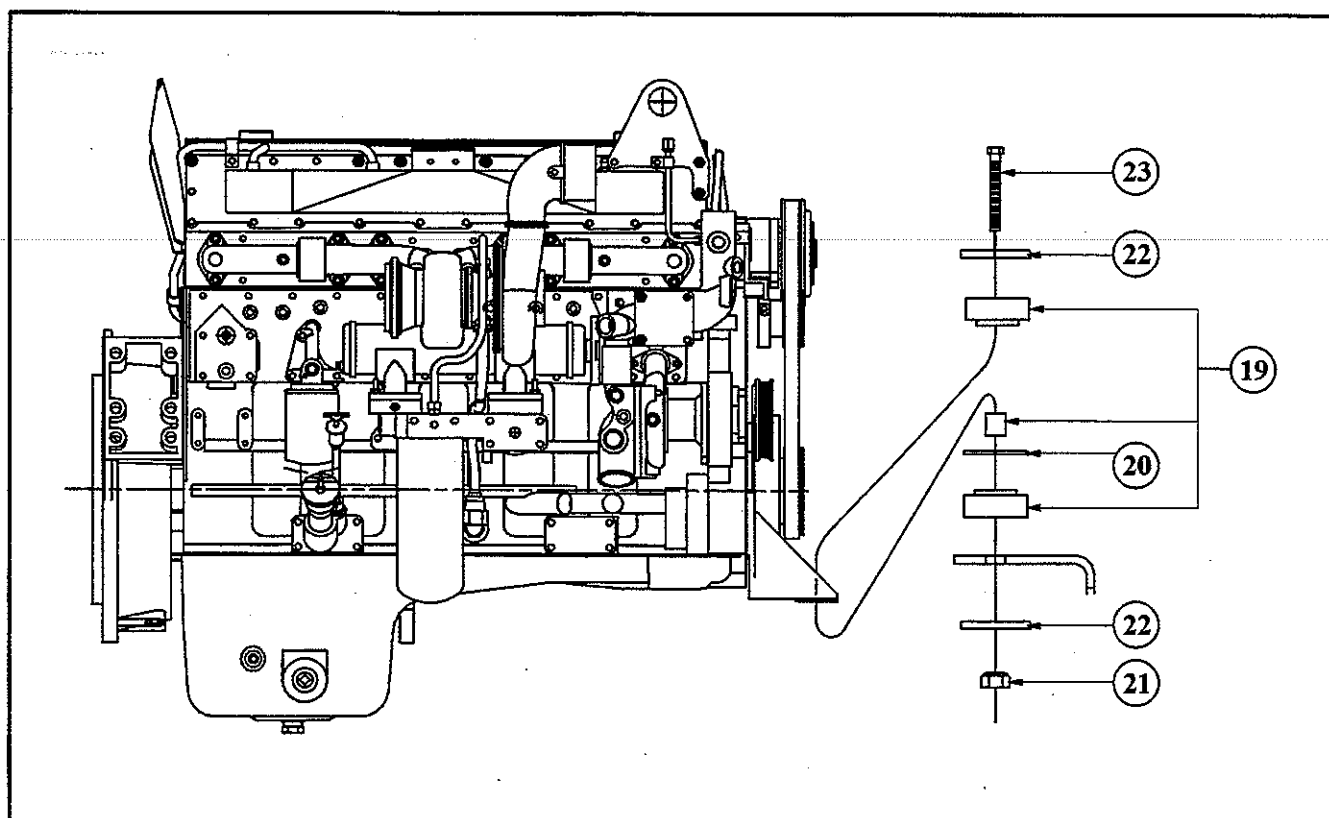

Figure 4—Engine Mounting Bolts
2. Remove engine mounting bolts. (See Figure 4—Engine Mounting Bolts.)